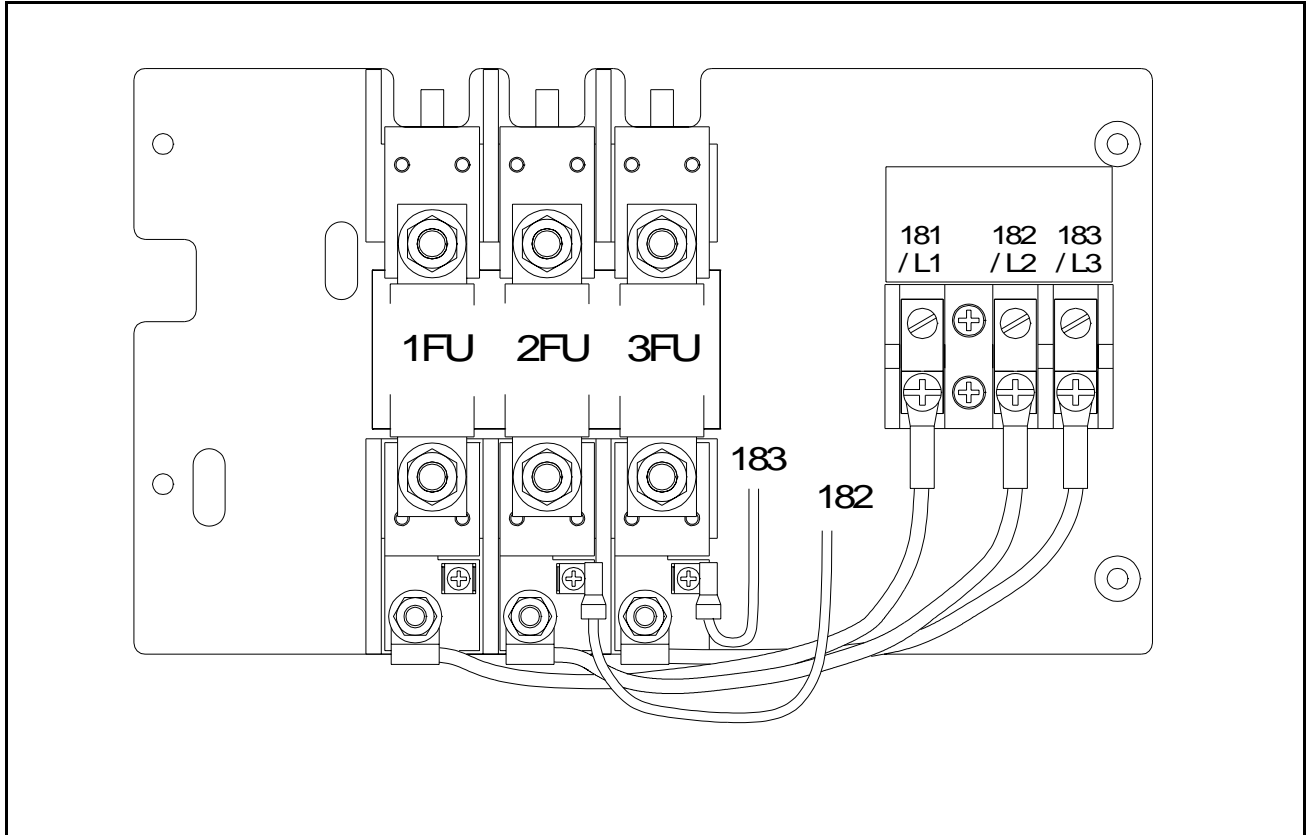

Figure 6 – DB Kit to Drive Line Voltage Connection
Step 12. Connect the spade connectors (182 and 183) of the control power wire to the male tabs on line terminals 182 and 183 (located at the bottom of the line fuses) on the drive assembly. See figure 6.